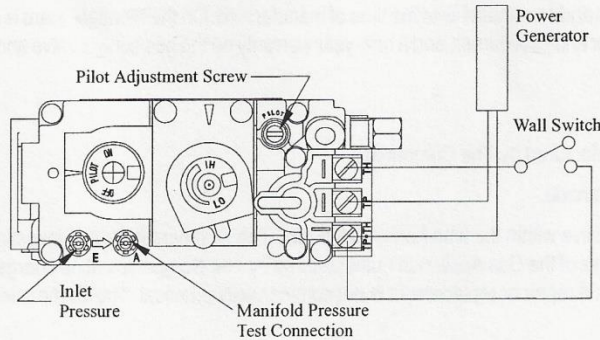

Figure 28. Sit Nova 820 gas valve.
- Have the fireplace installation inspected yearly, including a visual check of the vent system, the burner and the pilot flame. For your convenience a 1/8" manifold pressure tap is supplied on the gas valve for a test gauge connection. See Figure 28.
1. Locate Pilot Adjustment Screw. (See figure 28.)
Pilot won't ignite	Disconnect remote wires and try to light pilot. If pilot now works, remote connections are faulty. Check wiring diagram figure 28.
Main burner will not light	1. Check wiring (see figure 28). 2. Check wall switch for proper connection.